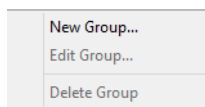

Figure C-12: Group Tab Menu
1. Right-click in a blank area in the **Groups** Tab to display the Tab menu (Figure C-12).